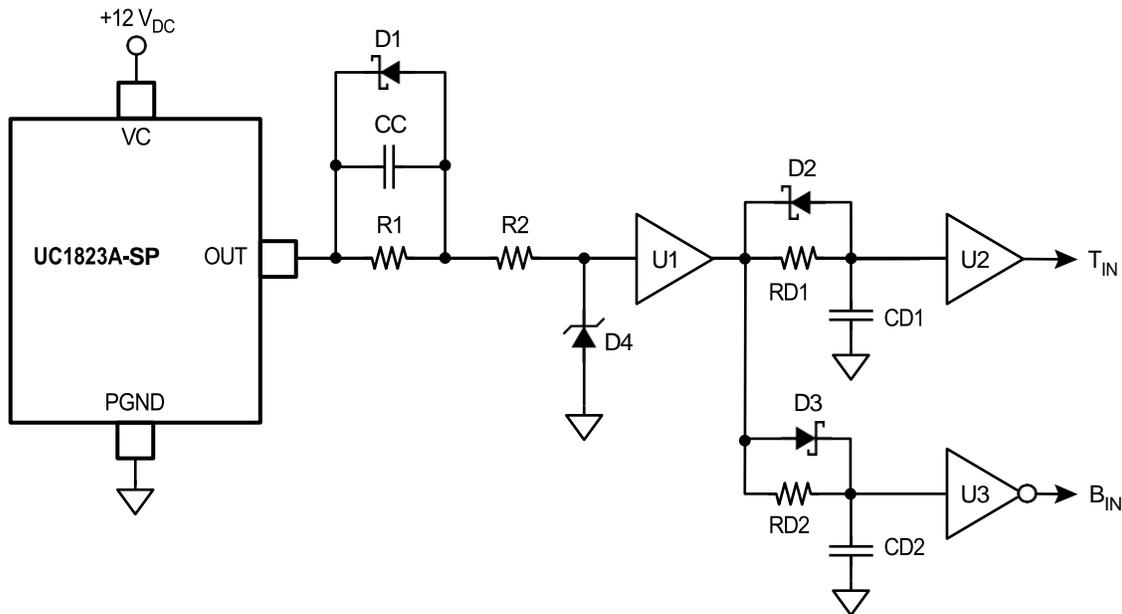
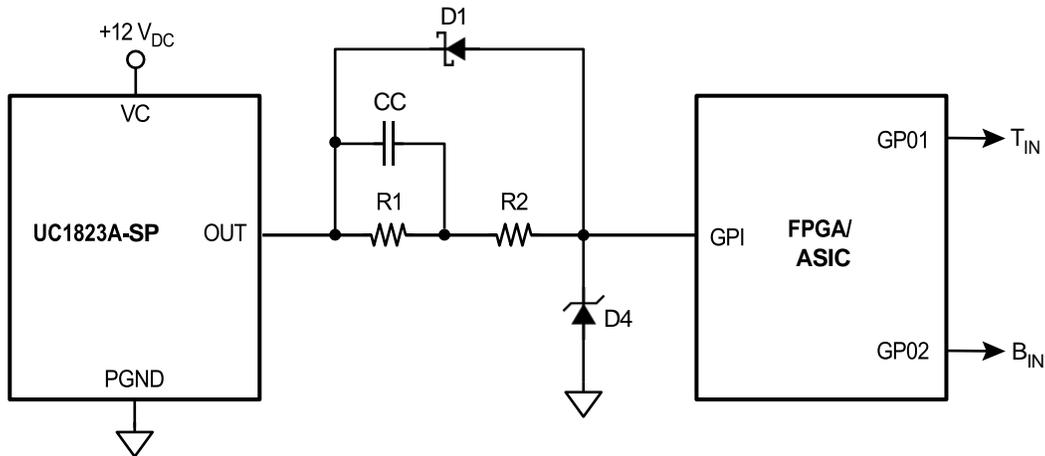
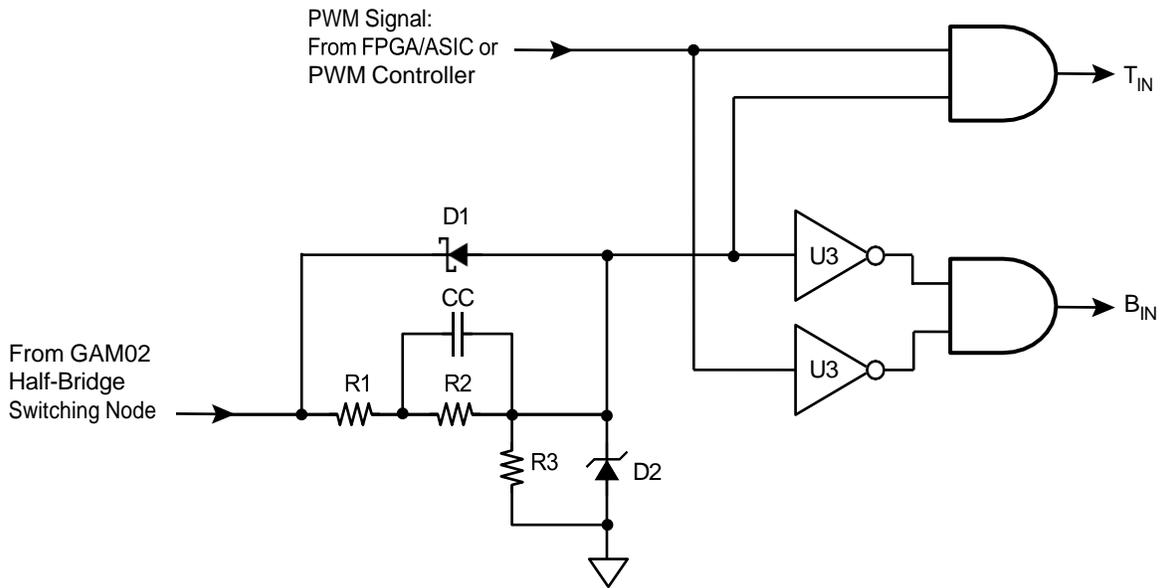

Figure 15. Zener Diode Logic Input Voltage Clamp Circuit and Dead Time Delay Circuit
Figure 16. Zener Diode Logic Input Voltage Clamp Circuit with ASIC/FPGA Two-Phase Clock (With Dead Time) Generator
Figure 17. Adaptive Dead Time Control for Cross-Conduction/Shoot-Through Avoidance
A Zener diode may be used to clamp the B_{IN} and T_{IN} logic inputs of the FBS-GAM02-P-C50 in order to interface the module to a high output voltage level PWM controller, as shown in Figure 15. The output of the UC1823A is a totem-pole configuration, and the output switches between $0 V_{DC}$ and $12 V_{DC}$ as logic 0 and logic 1, respectively. The transition times between logic states for a 1000 pF load are typically 20 ns, but much faster with lighter loads.
The same Zener diode clamping circuit as shown in Figure 15 may be used to clamp the output of the UC1823A to a lower voltage level in order to present it to an ASIC/FPGA in order to generate the requisite two-phase clock signals for the B_{IN} and T_{IN} logic inputs of the FBS-GAM02-P-C50. A typical circuit for this circuit implementation is shown in Figure 16:
In the circuit of Figure 16 all the high-speed and high accuracy analog functions associated with the PWM controller are performed off-chip from the FPGA/ASIC. The programmable logic of the FPGA/ASIC and the associated firmware code is responsible for generating the two-phase clock with dead times required by the B_{IN} and T_{IN} inputs of the FBS-GAM02-P-C50.
In circuits shown in both Figure 15 and 16 the dead times required by the FBS-GAM02-P-C50 to avoid cross-conduction/shoot-through are generated in a “brute force” manner either with analog components (Figure 15) or with programmable logic and firmware in an FPGA/ASIC (Figure 16). There is another way to obtain the optimum dead times for the FBS-GAM02-P-C50 device – adaptive dead time control, as shown in Figure 17.
Adaptive dead time control utilizes the state of the switching node (SN) of the GAM02 in order to allow the B_{IN} or T_{IN} signals (in this case the B_{IN} signal is the simple logical inverse of the T_{IN} signal) to be applied to the B_{IN} or T_{IN} logic inputs of the FBS-GAM02-P-C50 in order to avoid dynamic cross-conduction/shoot-through in the low- and high-side output power HEMTs. If the switching node of the FBS-GAM02-P-C50 is “low” (i.e. at PGND) then the low-side switch is turned ON, or in the process of turning OFF, and the high-side switch must not be turned ON (i.e. a logic 1 applied to the T_{IN} input). Similarly, if the switching node is “high” (i.e. at V_{DD}), then the high side switch is turned ON, or in the process of turning OFF, and the low-side switch must not be turned ON (i.e. a logic 1 applied to the B_{IN} input). However, if the B_{IN} input is logic 0 and the switching node is “high” (i.e. the high-side catch Schottky conducting load current) then the T_{IN} input may be set to logic 1 to turn on the high-side driver. This same situation applies to the high-side driver: If the T_{IN} input is logic 0 and the switching node is “low” (i.e. the low-side catch Schottky is conducting load current) then the B_{IN} input may be set to logic 1 to turn on the low-side driver. The circuit shown in Figure 17 relies on a similar voltage clamping scheme for the switching node as was utilized in Figures 15 and 16, with the exception that the power supply V_{DD}, and subsequent range of the switching node, could be much higher than 12 V_{DC} – in fact up to 50 V_{DC} for the FBS-GAM02-P-C50. So greater care must be exercised in the selection of the clamping components to avoid excessive power dissipation in them, and the associated decrease in circuit efficiency. It is strongly recommended to simulate the circuit once the components have been selected to ensure that the proper clamping level is achieved and that the power dissipation of the clamp circuit is kept to a reasonable level so as not to affect overall circuit operating efficiency.